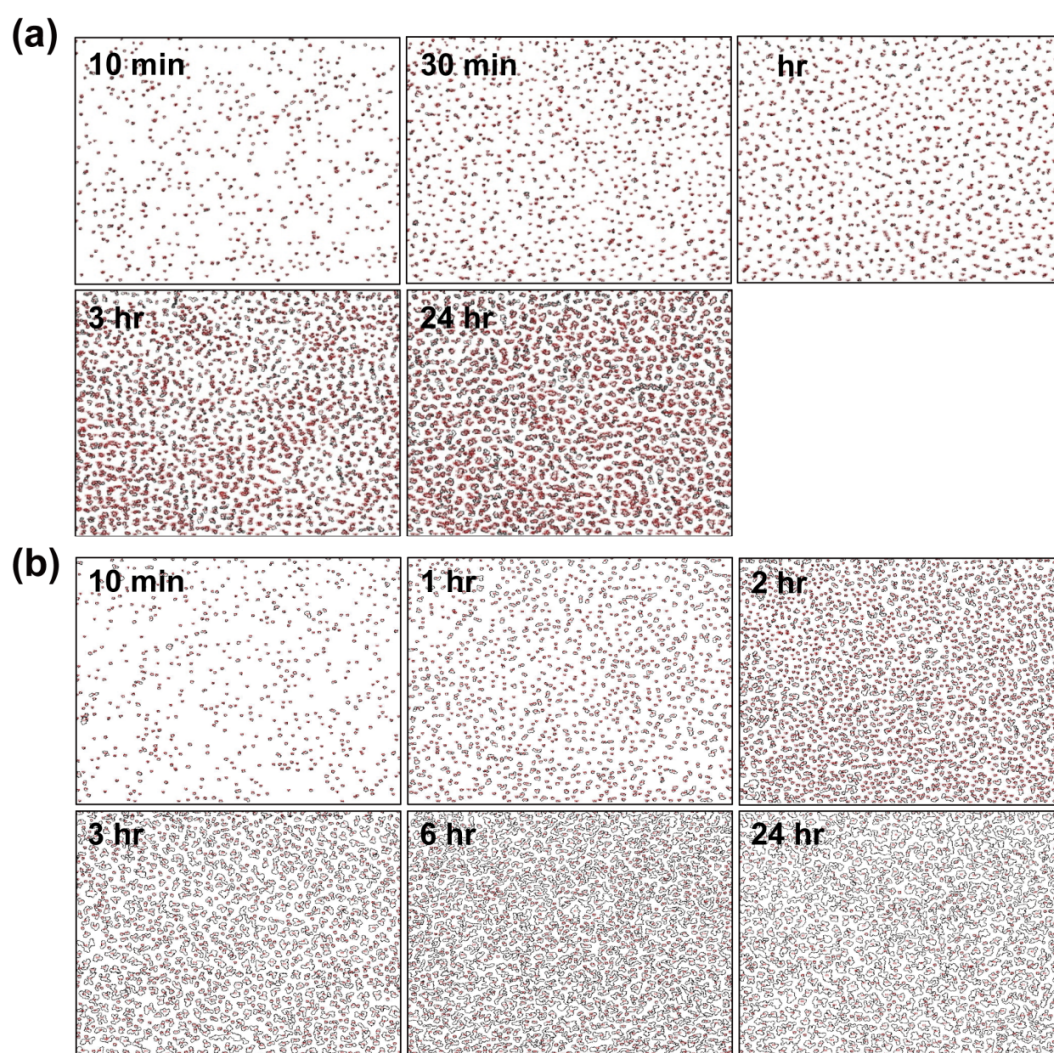

Fig. S4 ImageJ-analyzed results (from corresponding SEM images of Figure 1 and 2) of BCP_(PS-*b*-P4VP)-templated (a) Au-CC and (b) Au-DC arrays.
* interpolated value, while all other values were taken from ImageJ-analyzed area fraction (Fig. S4).